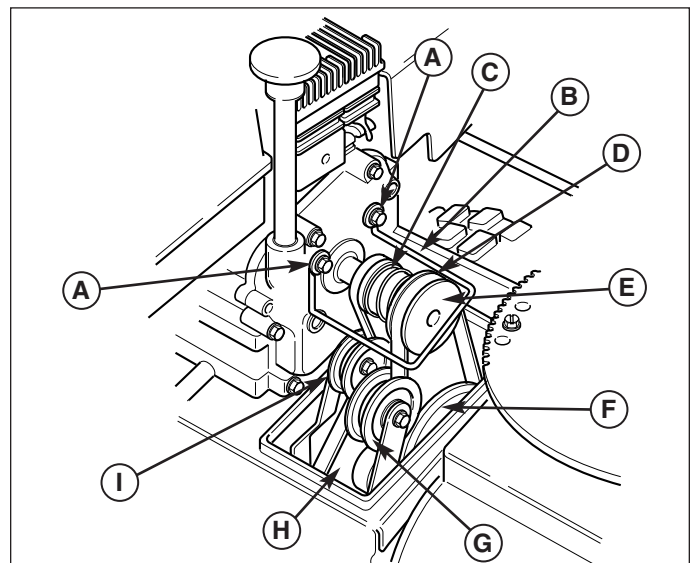

Figure 25. Belts and Pulleys
3. Remove the belt guide (B, Figure 25) by removing the two capscrews (A), lockwashers and washers.
- a. Slip the auger drive belt (D, Figure 25) from the idler pulley by pushing it away from the pulley and then toward the rear.
- a. Pull the idler pulley (I, Figure 25) away from the belt and slip the belt from the pulley.
- b. Slip the belt off the traction pulley and then the engine pulley. The arm for the front idler pulley (G, Figure 25) may have to be pivoted to provide clearance for removing the belt from the traction pulley.
- c. Pull the belt out between the auger pulley (F, Figure 25) and traction pulley.